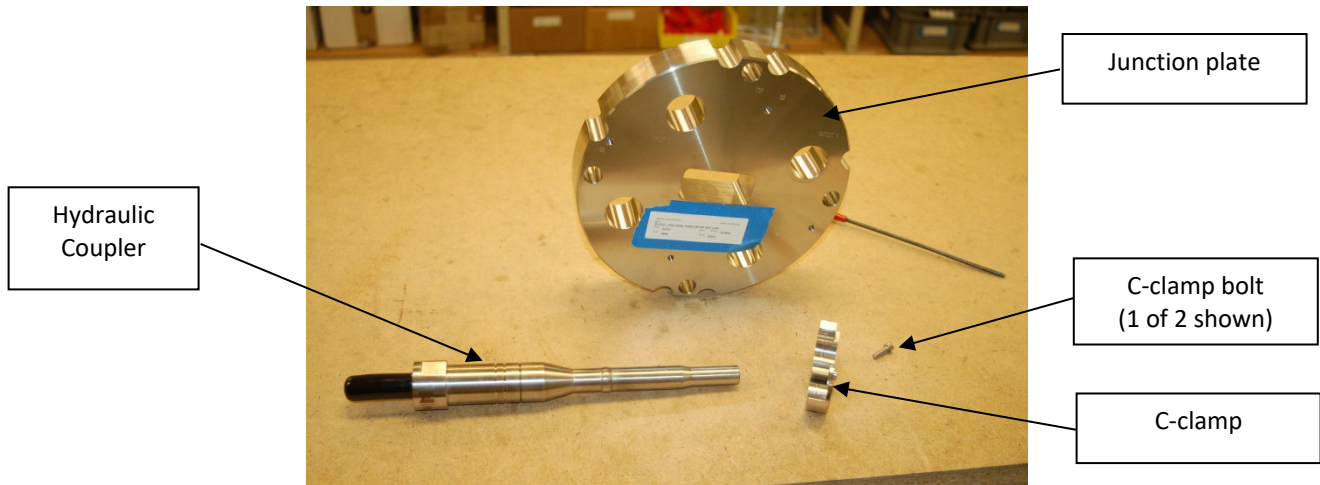

Figure 72: Coupler Assembly Step 1
- 26.5.5 The following components are required for coupler installation: junction plate, hydraulic coupler, C-clamp and two C-clamp SHCS. See Figure 72. Figure shown represents UO-8 couplers.